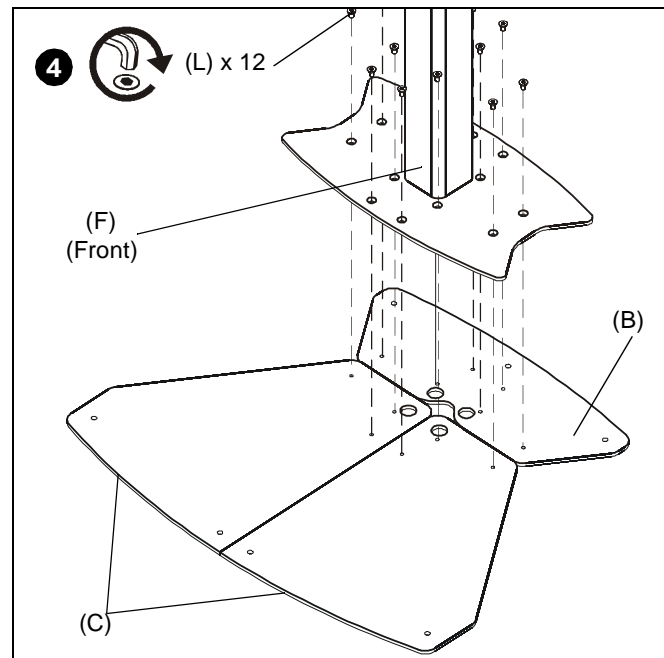

Figure 4
3. Place top base section and center post assembly on top of the three base pieces with the center post front facing base pieces (C). (See Figure 4)
4. Fasten lower base pieces (B and C) to top base section and center post assembly using twelve 5/16-18 x 1/2" flat head cap screws (L). (See Figure 4)